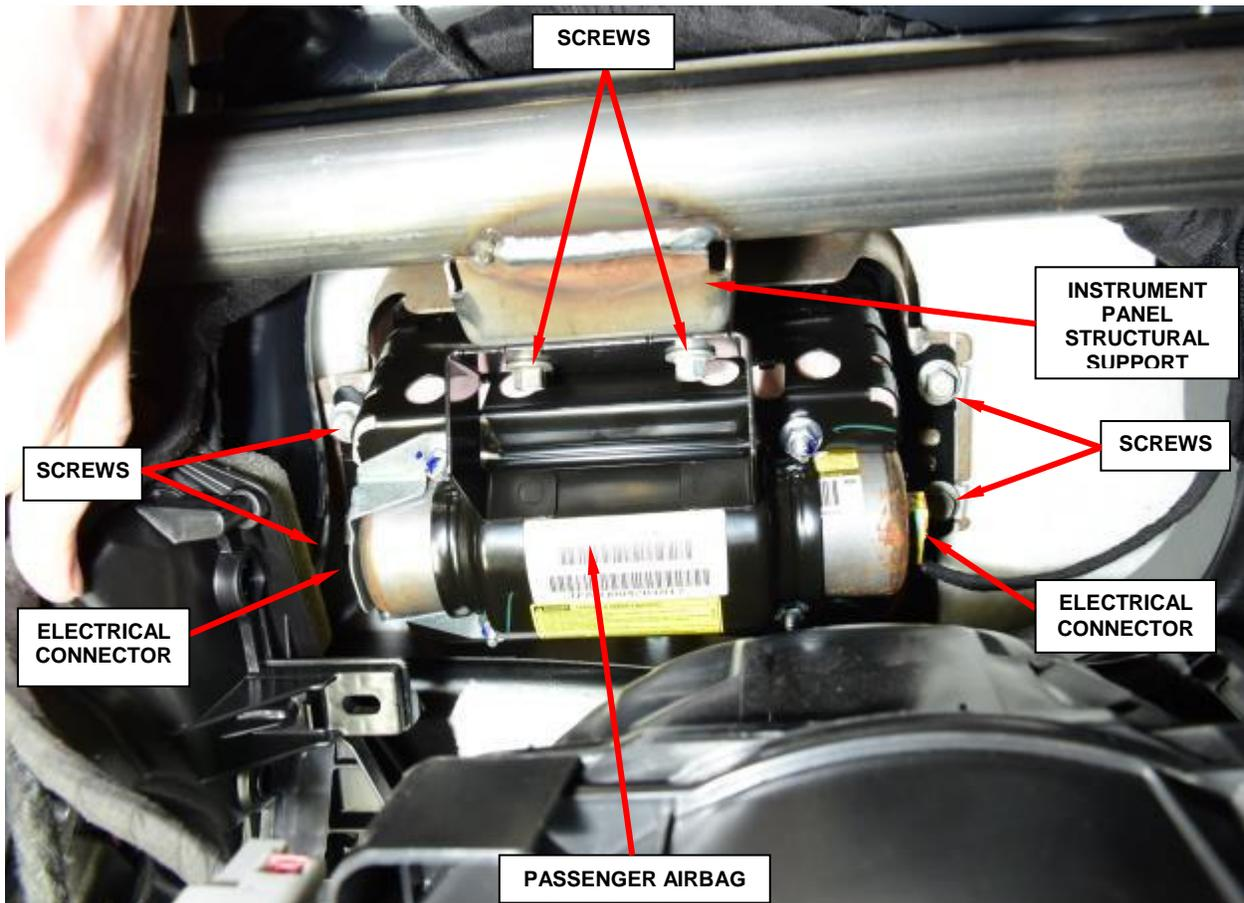

Figure 28 – Passenger Airbag
12. Reach through the instrument panel glove box opening to access and disconnect the two instrument panel electrical connectors from the two Passenger Airbag (PAB) initiators, one at each side of the PAB inflator canister (Figure 28).
13. Reach through the instrument panel glove box opening to access and remove and save the two screws that secure the PAB lower bracket to the instrument panel structural support (Figure 28).
14. Remove and save the four screws that secure the two upper PAB mounting brackets to the U-nuts on each side of the PAB retainer or chute on the underside of the instrument panel cover (Figure 28).